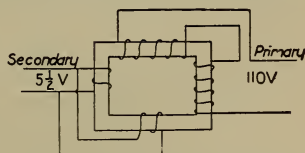

FIGURE 220.—110 VOLTS TRANSFORMED TO  $5\frac{1}{2}$  VOLTS.
3. If the primaries are connected in series and the secondaries in parallel, the voltage will be  $\frac{1}{20} \times 110 = 5\frac{1}{2}$ . (Figure 220.)